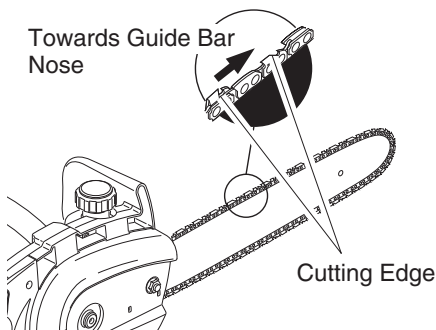

Figure 4 - Correct Chain Direction
4. Place chain around drive sprocket, along top groove of guide bar, and around guide bar nose. **Note:** Make sure cutting edges of chain are facing in right direction. Position chain so cutting edges on top of guide bar face guide bar nose (see Figure 4, and indicator on side cover of saw).